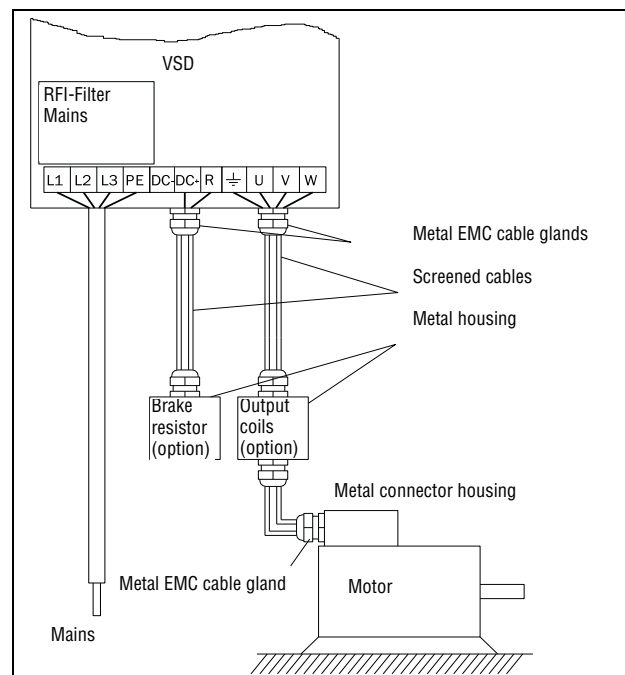

Fig. 32 Connection of mains and motor cables
1. Connect the mains cables as in Fig. 32. The VSD has, as standard, a built-in RFI mains filter that complies with category C3 which suits the Second Environment standard.
2. Connect the motor cables as in Fig. 32. To comply with the EMC Directive you have to use screened cables and the motor cable screen has to be connected on both sides: to the housing of the motor and the housing of the VSD.